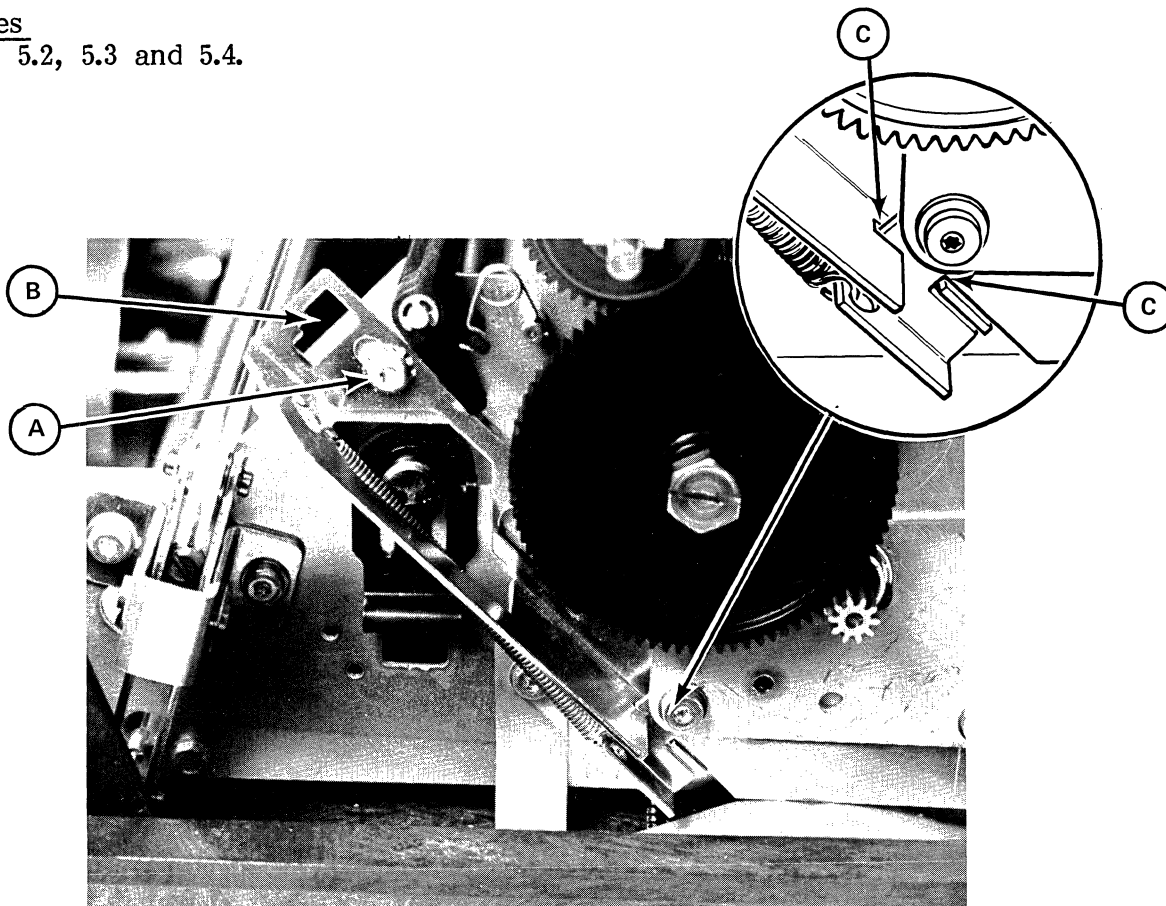

Figure 5-9. PAPER FEED ANTI-BACKLASH MECHANISM ADJUSTMENT
The paper feed anti-backlash mechanism (Fig. 5-9) is a standard feature on later units. This mechanism eliminates all backlash in the paper feed drive train to give precise control of paper registration.
Refer to Figure 5-9.
- 2) Loosen the tensioner bracket lock screw (A).
- 3) Insert a screwdriver blade into the adjustment slot (B), and adjust for equal clearance at points (C) shown in Figure 5-9.